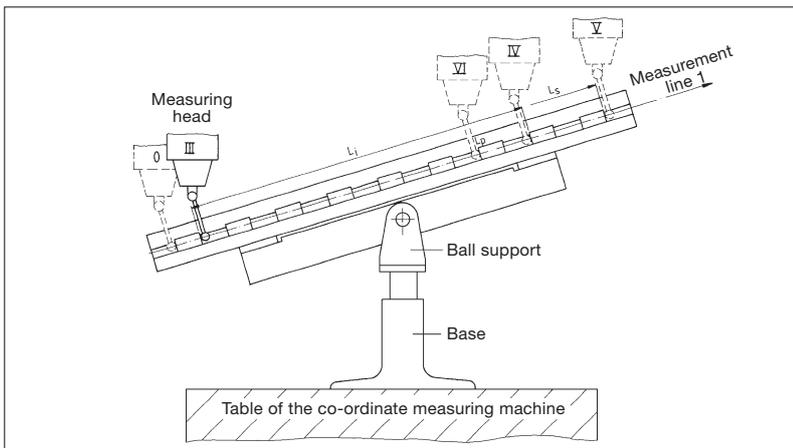

Fig. 3:
- Inside dimension L_i e.g. with probe head in positions III and IV (Fig. 3)
- Rear-face to rear-face dimension L_s e.g. with probe head in positions III and V (Fig. 3)
- Front-face to front-face dimension L_s e.g. with probe head in positions VI and IV (Fig. 3)
- Positional length (L_p of a gauge face from the datum gauge face, e.g. with probe head in positions VI and 0 (Fig. 3)